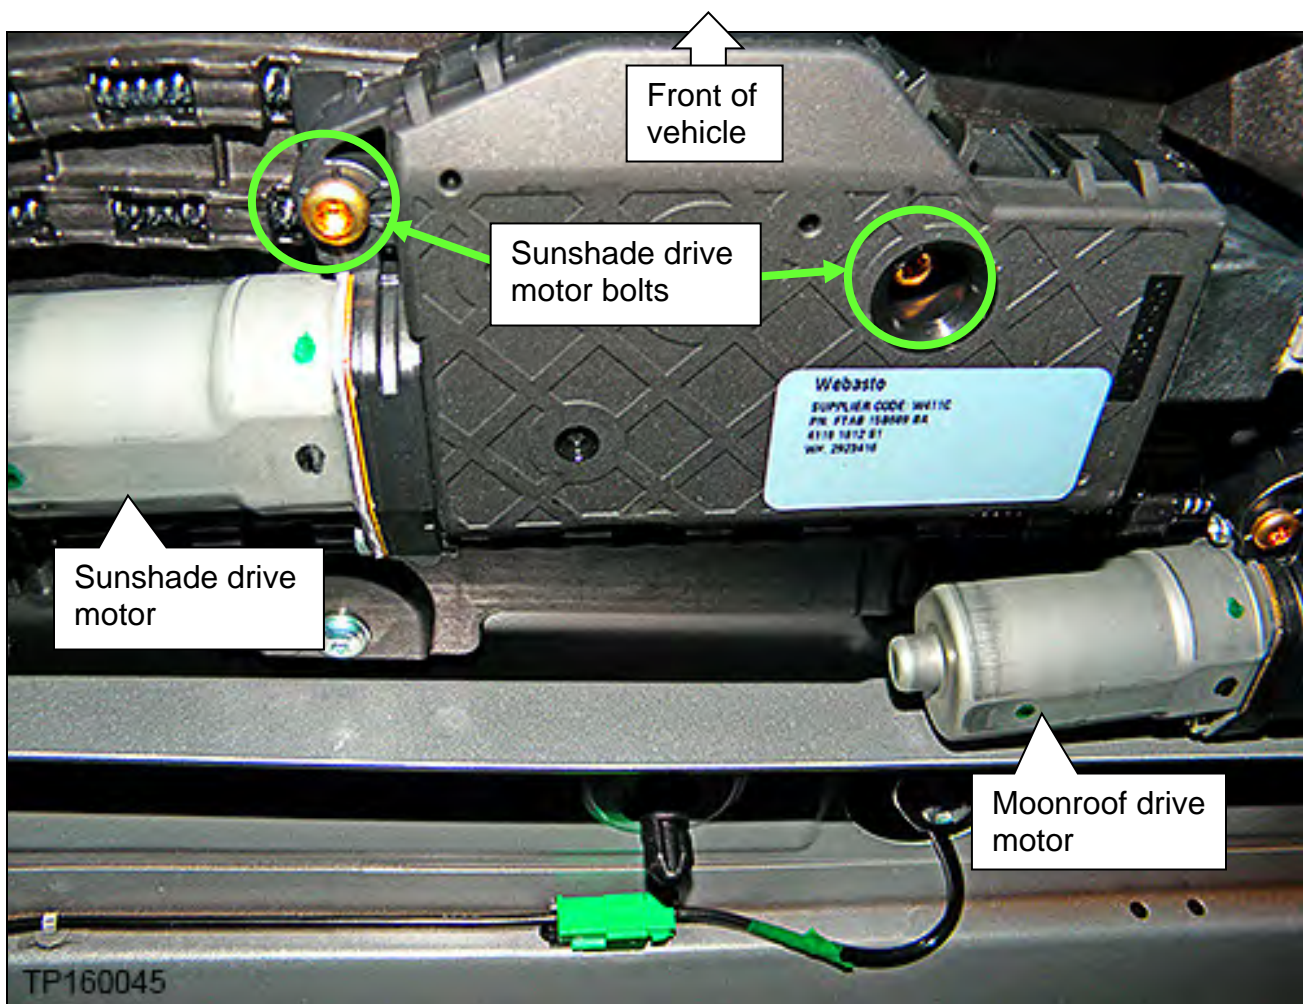

Figure 72
- Figure 72 shows the sunshade drive motor bolts (T25). The Moonroof drive motor bolts are similar.